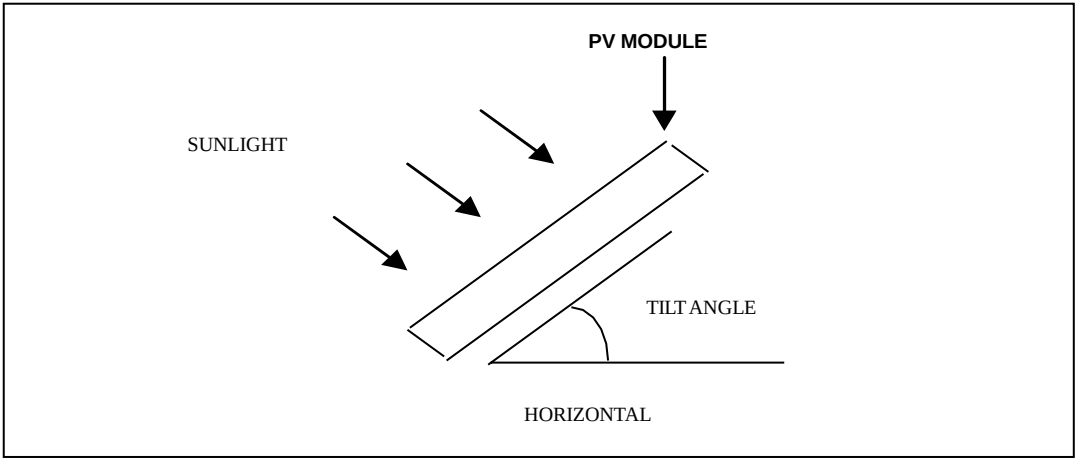

Fig. 7-1 Tilt angle
③ For offshore areas beyond 1000m from the coastline, conventional modules can be used, but please communicate with Risen technical team for advice. During installation, secure the component connectors in a location where they are protected from rain.
④ If Risen modules are used in offshore environment projects without evaluation, Risen will not assume any responsibility if the modules fail due to environmental factors.
- Installation inclination refers to the Angle between the solar photovoltaic module and the ground plane, as shown in Figure 7-1.